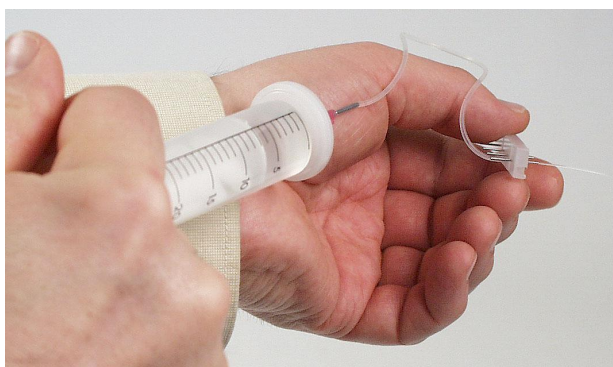

Figure 5–30. Pressing liquid through the tip
6. Attach the short tubing onto the outlet of the tip and press liquid through the syringe (Figure 5–30).